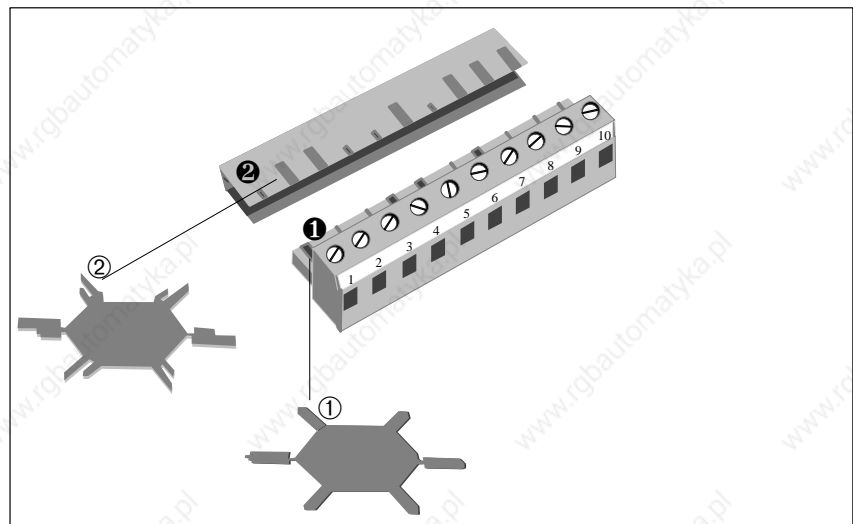

Figure 2-12 Preventing Insertion of the Wrong Connector
With the solid keys ① and the profile keys ② (see Figure 2-12) you can configure a connector so that it cannot be inserted in the wrong receptacle without having to sacrifice a pin.